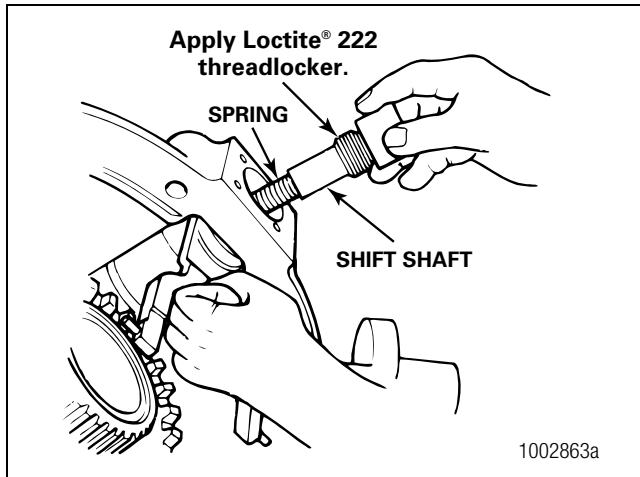

Figure 6.10
5. Hold the shift fork in position. Install the shift shaft spring into the shift shaft opening in the carrier, through the shift fork bore and into the bore for the shift shaft spring. Figure 6.10.